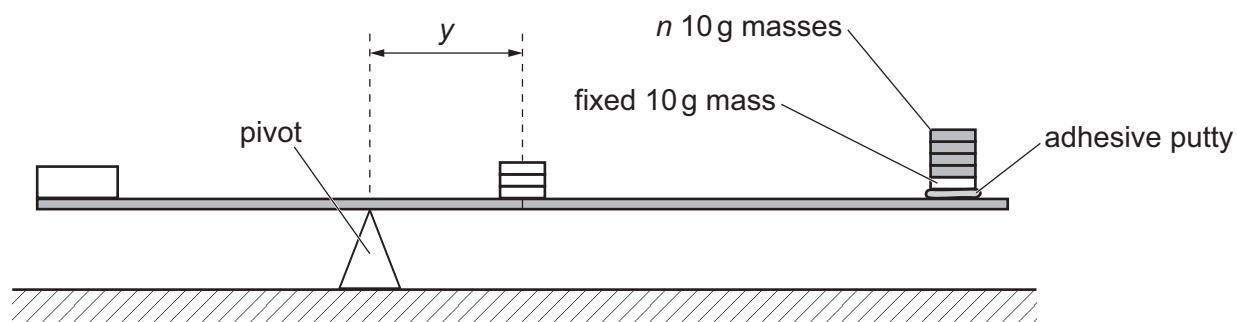

Fig. 1.2
- Carefully place the rule and masses on the pivot as shown in Fig. 1.2.